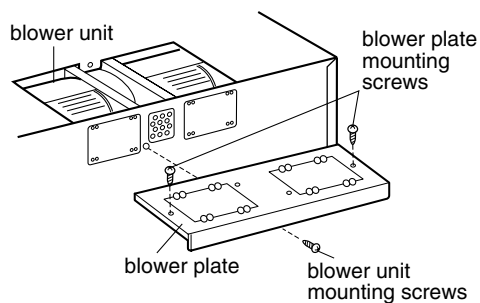

Figure 22
6. Reattach blower plate to microwave oven. Attach with the one blower unit mounting screw and then the two blower plate mounting screws. See Figure 22.